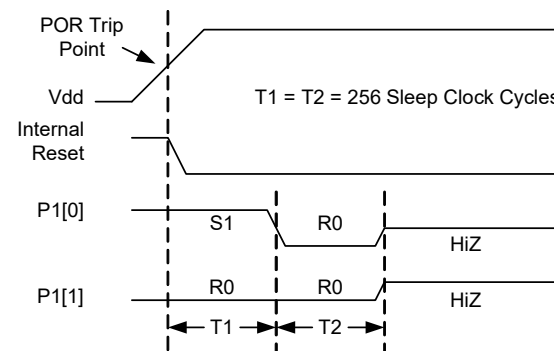
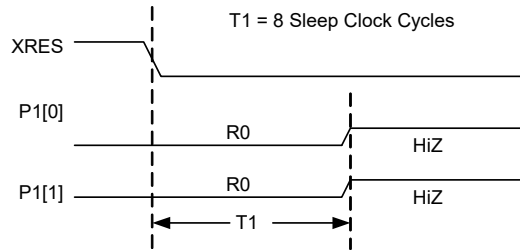

Figure 29-1. P1[1:0] Behavior on Power Up
Figure 29-2. P1[1:0] Behavior on External Reset (XRES)
Power on Reset and External Reset cause toggling on two GPIO pins, P1[0] and P1[1], as described below and illustrated in Figure 29-1 and Figure 29-2. This allows programmers to synchronize with the PSoC device. All other GPIO pins are placed in a high impedance state during and immediately following reset.
At power up, the internal POR causes P1[0] to initially drive a strong high (1) while P1[1] drives a resistive low (0). After 256 sleep oscillator cycles, the P1[0] signal transitions to a resistive low state. After additional 256 sleep oscillator clocks, both pins transition to a high impedance state and normal CPU operation begins. This is illustrated in Figure 29-1.
During External Reset (XRES=1), both P1[0] and P1[1] drive resistive low (0). After XRES deasserts, these pins continue to drive resistive low for another 8 sleep clock cycles. After this time, both pins transition to a high impedance state and normal CPU operation begins. This is illustrated in Figure 29-2.